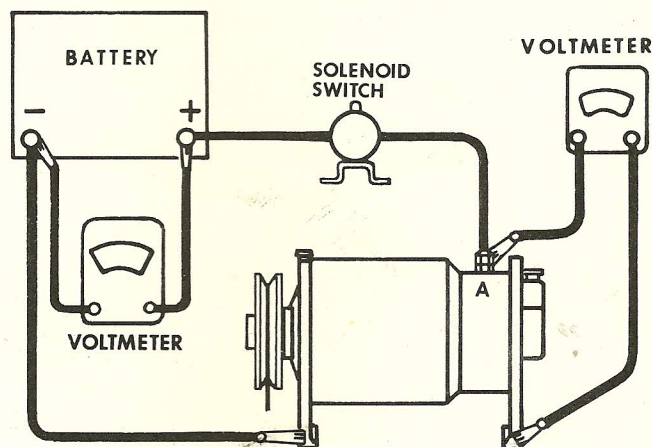

Figure F-5
1. Connect a volt meter (12 volt) between the positive and negative terminals of the battery, Figure F-5.
2. Connect voltmeter (12 volt) between the starter generator "A" terminal and ground on starter generator frame, Figure F-5.